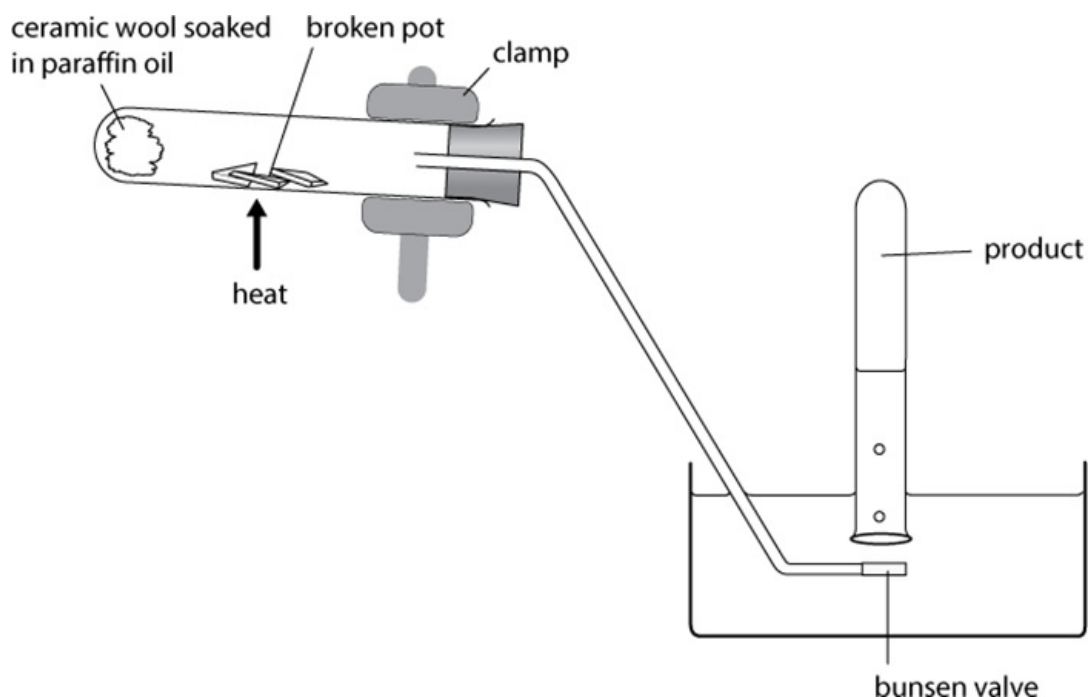

Figure 9.1: Cracking a hydrocarbon
- 4 Set up the apparatus as shown in Figure 9.1. Stand five test-tubes in the trough so that they are full of water; have stoppers ready for the test-tubes.